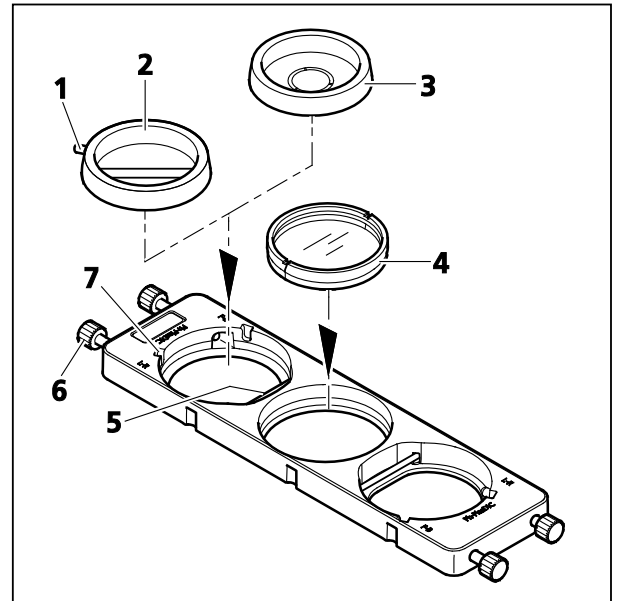

Fig. 3-26 Inserting and Changing Diaphragms in the Slider
The middle position is fitted with a neutral filter (Fig. 3-26/4) as a default. Alternatively, this position may be fitted with one of the two diffusion disks, depending on the objective used. For that, the neutral filter must be removed.
- Turn back the centering screws (Fig. 3-26/6).
- Insert the Ph stop (Fig. 3-26/3) by pressing it obliquely against the leaf spring (Fig. 3-26/5).
- Turn the centering screws (Fig. 3-26/6) completely out of the mount hole.
- Place the slit diaphragm (Fig. 3-26/2) into the mount. Use the recess (Fig. 3-26/7) on the slider and the pin (Fig. 3-26/1) on the side of the module to fix the diaphragm in its position.